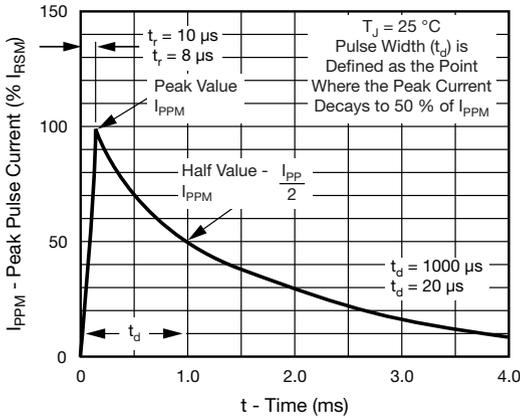
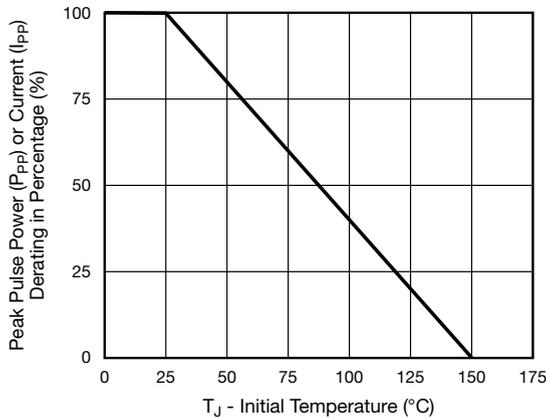

Fig. 1 - Pulse Waveform
Fig. 3 - Pulse Power or Current vs. Initial Junction Temperature
- (1) Non-repetitive current pulse, per fig. 1
- (2) Mounted on 6.0 mm x 6.0 mm copper pads to each terminal
- (3) Mounted on minimum recommended pad layout
**Notes**(1) Pulse test:  $t_p \leq 50\text{ ms}$
(2) Surge current waveform per Fig. 1 and derate per Fig. 3
(3) To calculate maximum clamping voltage at surge current uses the following formula:  $V_{CL\text{ max.}} = R_D \times I_{PP} + V_{BR\text{ max.}}$ **THERMAL CHARACTERISTICS** ( $T_A = 25\text{ }^\circ\text{C}$  unless otherwise noted)